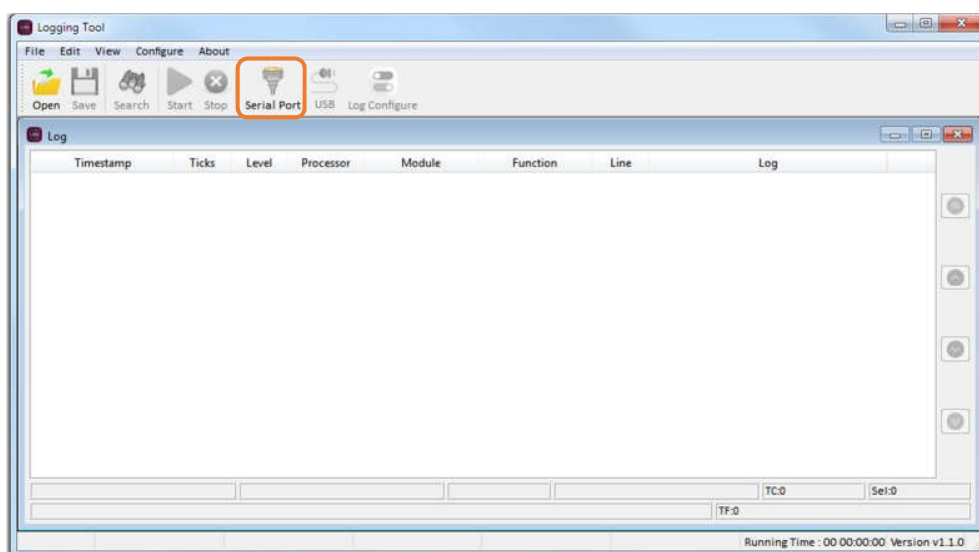

Figure 36. Serial Port Button
- 2) Click "Serial port" as shown in Figure 36.